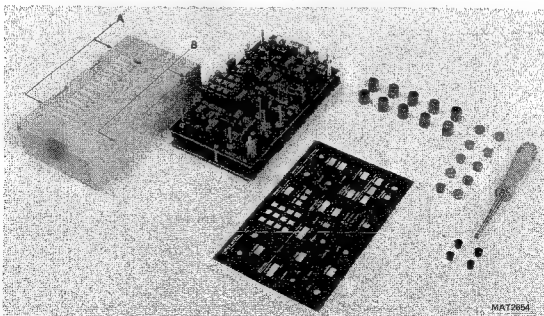

Figure 10.6 Disassembled front unit.
- Remove the two screws A (figure 10.6) at the upper side of the front unit.